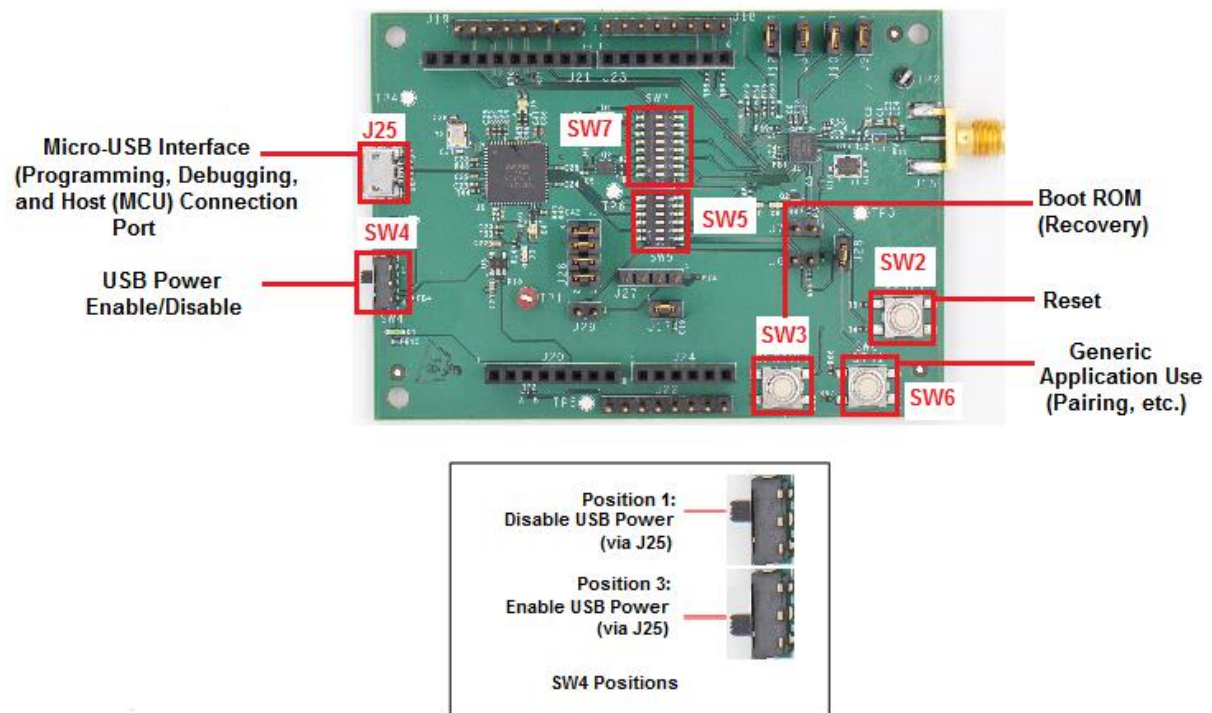

Figure 3-1. CYW92070xV3_EVAL Evaluation Board Settings
Figure 3-1 shows the CYW92070xV3_EVAL WICED evaluation board.
4. Set **SW4** to the ON position to enable USB power (see Figure 3-1).